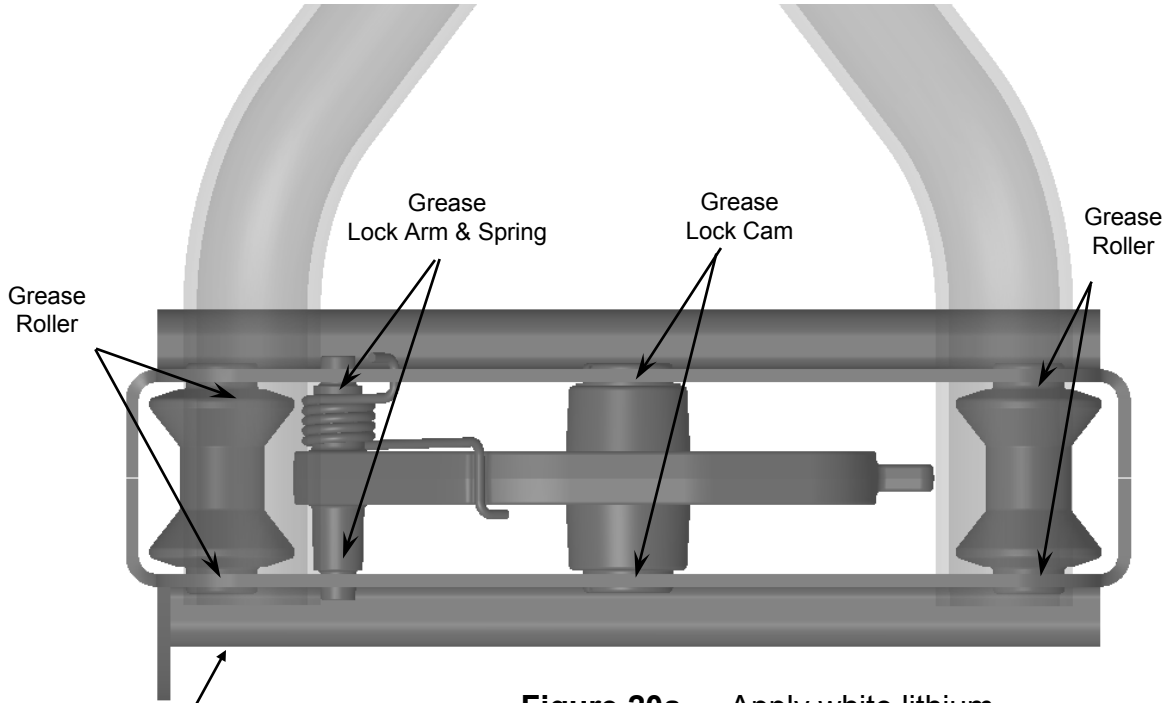

Figure 20a
13. Grease Lock Arms, Lock Cams, Springs, and Rollers in both Slider Assemblies (Figure 1, #3). Grease the Guide Slots in the Slider Rails (Figure 1, #20). Apply white lithium grease to entire rail of both Slider Rails (Figure 1, #20) before use. See Figure 20a & 20b.